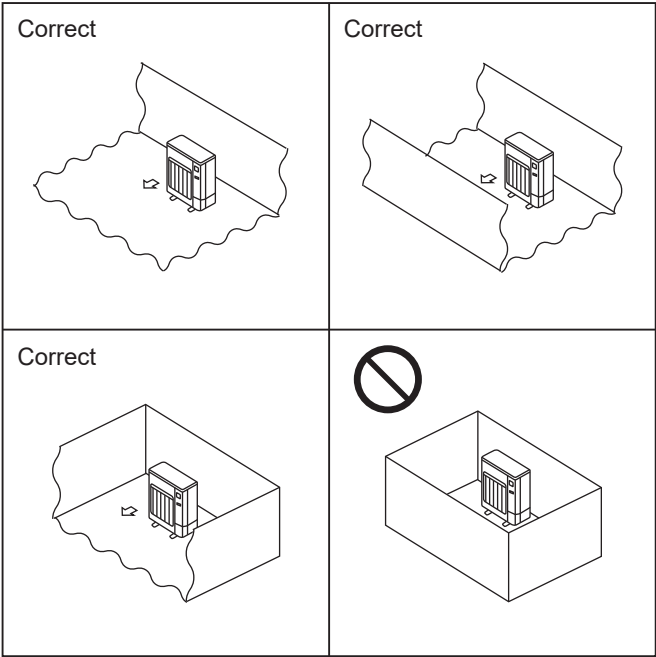

Fig. 2-2
- Install outdoor units in a place where at least one of the four sides is open, and in a sufficiently large space without depressions. (Fig. 2-2)